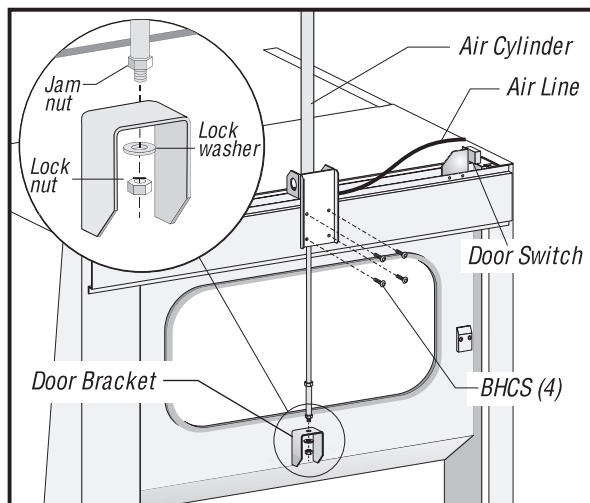

Figure 11.17 Air cylinder installation.
3. Remove the lock nut and washer from the end of the air cylinder rod, but leave the jam nut in place. Connect the automatic door air cylinder and bracket to the machine with four 1/4"-20 BHCS, as shown in Figure 11.17.